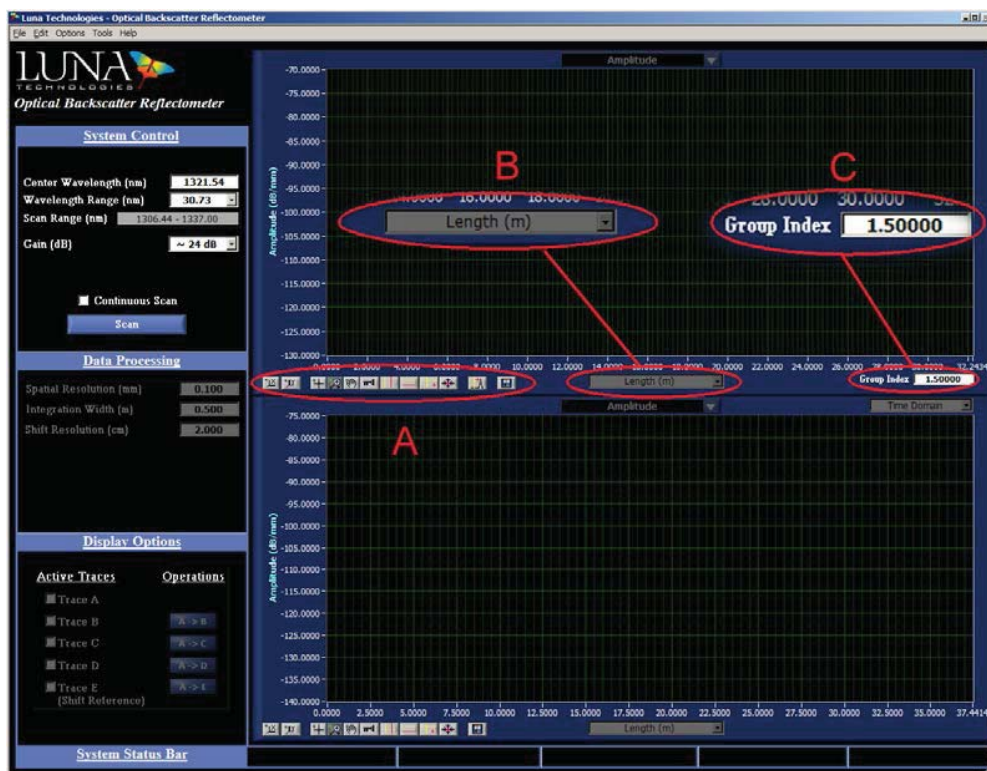

Figure 4: Labeled screenshot of OBR Analysis Software with plot tools (A), measurement length dropdown (B), and index of refraction data field (C)
- c) The OBR graphical user interface (GUI) is divided into two regions. As shown in Figure 4 below, the settings pallet located on the left facilitates user input for “*System Control*”, “*Data Processing*” and “*Display Options*”. The second region is the graphical display to view acquired data. When data is imported, it is displayed in the top graph. The default display settings show a decimated form of the data to give the user a global perspective of the entire scan length. A high resolution subset of the scan can be highlighted and displayed in the bottom graph. Each graph has an array of tools available to aid in visual selection and interpretation of the data (see label ‘A’, Figure 4). The length can be displayed in ‘Meters’, ‘Feet’ or ‘Nanoseconds’ by toggling the pull-down menu below each graph (see label ‘B’, Figure 4). In order for the proper lengths (in Meters or Feet) to be computed, the appropriate “*Group Index*” (Index of Refraction) as provided by the manufacturer must be entered in the field labeled ‘C’ in Figure 4.